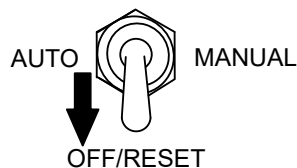

Figure 21. Auto Start/Stop Switch (Off/Reset Position)
5. Place the **Auto Start/Stop** switch (Figure 21) in the **OFF/RESET** position.